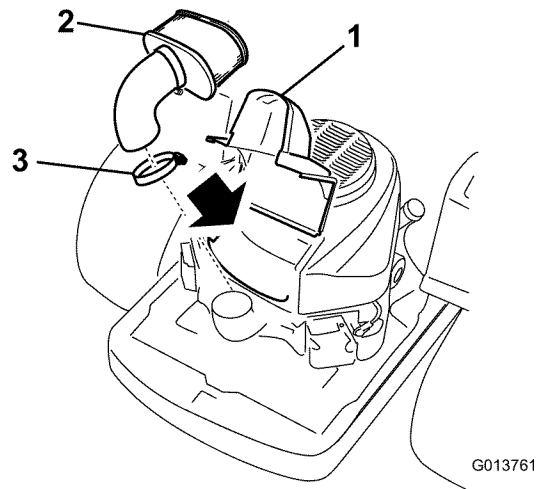

Figure 26
3. Clean around the air cleaner cover to prevent dirt from getting into the engine and causing damage. Lift the cover and remove the hose clamp securing the air cleaner assembly to the engine (Figure 26).
4. Loosen the hose clamp and remove the paper element (Figure 26).